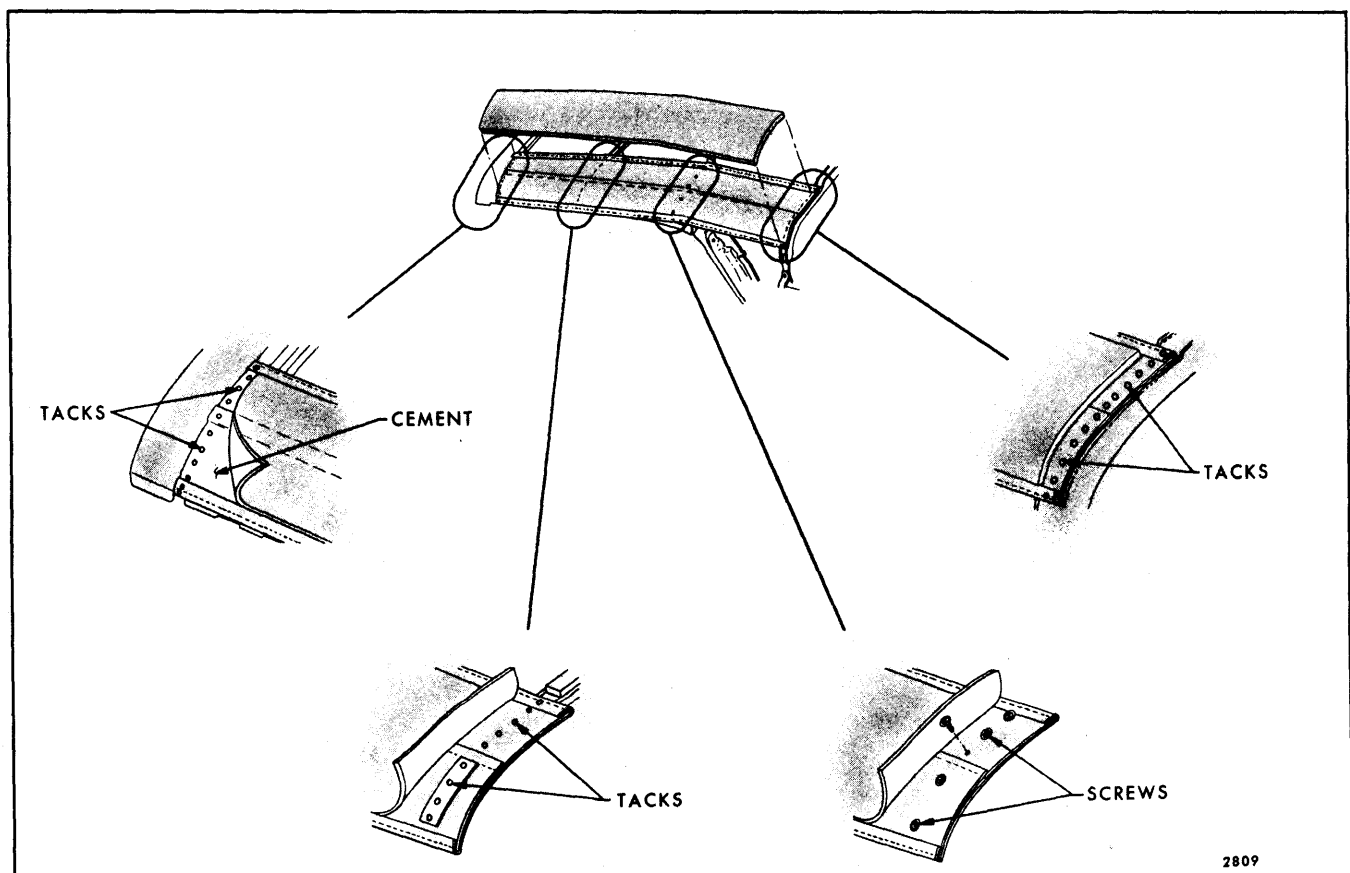

Fig. 13-15—Side Stay Pad Attachment
17. Remove polyurethane and side stay pads. Stay pads are secured with tacks or staples to front roof rail, front roof bow and rear roof bow, and with screws to center bow (Fig. 13-15 and 13-16).
1. With front roof rail locked at windshield header, and with rear bow spacer sticks firmly in place, install side stay pads. Align stay pads with depression in rear bow and tack to secure. Pull stay pads forward for snug fit and tack to front roof rail. Tack stay pads to front bow. Secure stay pads to center bow with screws. Check alignment of polyurethane padding on stay pads to determine cementing area, and remove. Apply an approved trim cement to stay pads uniformly and install polyurethane padding (Fig. 13-15). Trim off selvage end (excess material) of stay pads just forward of rear rolled edge of rear bow. Also, trim at front roof rail as required.